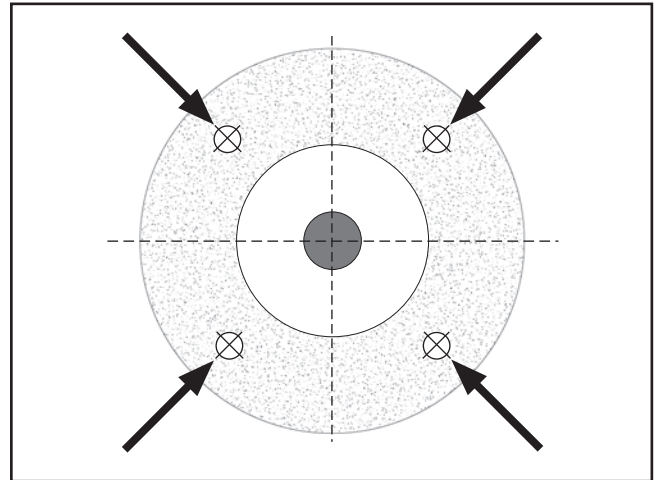

Figure 23. Tapping locations for a ring test.
3. At the four spots on the wheel shown in **Figure 23**, gently tap the wheel with a non-metallic object, such as a screwdriver handle or wooden mallet.